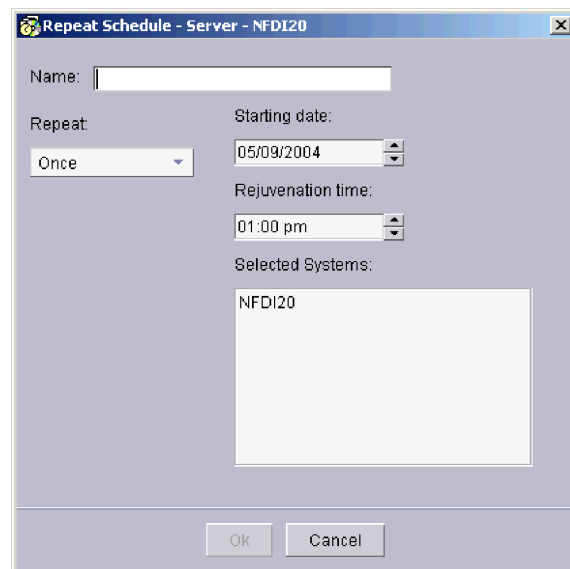

Figure 135. “Repeat Schedule - Server” window
2. In the left pane, click one or more managed systems for which you want to schedule a rejuvenation; then, drag the selected managed system or systems onto the calendar date (in the right pane) on which you want the first rejuvenation to occur. The “Repeat Schedule - Server” window opens. See Figure 135. The **Selected Systems** field displays the target objects that you selected in the “Software Rejuvenation” window.